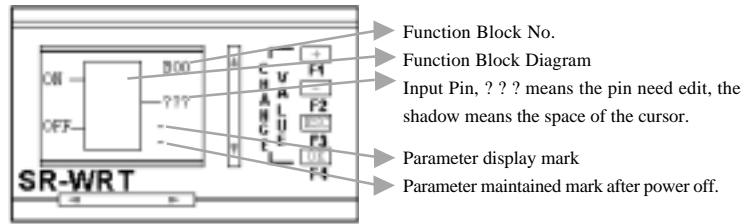
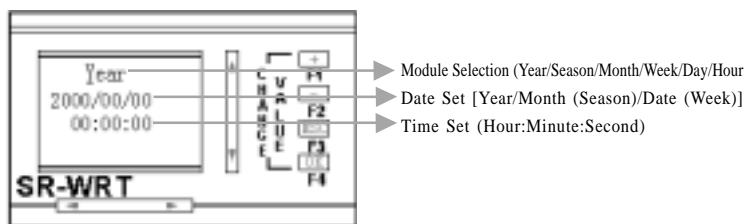
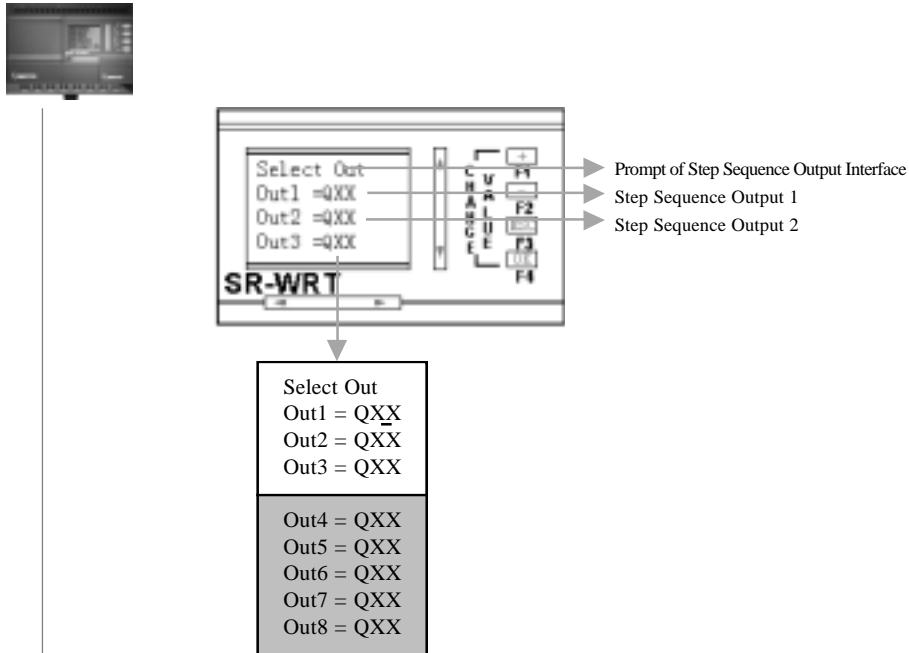

Fig. 10.31 Function Block Edition Interface
Fig. 10.32 Clock Time Edit Interface
Fig. 10.34 Step Sequence Output Edit Interface
1. Select the function. In Fig. 10.7, move “>” before 17 SCHED and press OK to enter Fig. 10.8. Move “>” before YES and press OK key to enter Fig. 10.31, Function Block Edition Interface.
In Fig. 10.31, B00 is the sequence No. of the function block, which is produced automatically in programming and is not able to be edit. The ON of the left side means the space to modify the ON date and the OFF of the left side means the space to modify the OFF date.
3. Select and Edit Point ON: The cursor “█” will also appear in M00. It is need to edit the ON time. Press OK key and cursor will change from “█” to “_”. Press LEFT, RIGHT key, the cursor will be moved under OFF. Press UP, DOWN key, the cursor will be moved under ON. Now the cursor is “_”. Press OK key, Fig 10.32, Clock Time Edit Interface will be displayed.
In Fig. 10.32, “_” is the cursor. The space of the cursor can be changed via UP, DOWN, LEFT, RIGHT and the data or module of the cursor can be changed via +, -. In Fig. 10.32, change the YEAR into DAY and change time to 6:30, thus the time of ON is set. Press OK key to return to Fig. 10.31. But at this time the cursor will be “■” and be on the “O” of ON. The input of this point can be selected via +, -. If “-” is selected, which means this point is not used. If this point is needed, select “On” and press “OK” key, change cursor to “_”. Then select and edit other points.
6. Return to Fig. 10.7, Function Block Selection interface. The edit of function block B00 is finished via the above steps. Press ESC, all the points are edit correctly and return to Fig. 10.7. Otherwise the wrong points will be displayed in Fig. 10.31 as “? ??”. And the cursor will be in the first “?” as the form of “■” and wait for the edition. And the mistakes at this space include the following three points:
Select and Edit B01: Via the above procedure, select function block 17SCHD. Through the confirmation in Fig. 10.8, it will enter Fig. 10.31, function block edition interface. But the B00 is changed into B01, which means the function block edited is
Select and Edit B04: Using step 1 to select function block 22 SSEQ. Through the step 2, edit the first input port of B04 as M02. After confirmation, through step 3, move cursor to the second input port and edit it as LO. Through step 3, move cursor to the first output port “OUT” at the right side. At this time the cursor will be “_”. Press OK key to enter Fig. 10.34, Step Sequence Output Edit Interface.
In Fig. 10.34, Step Sequence Output Edit Interface, “_” is the cursor. The step sequence can be edit via UP, DOWN, and the space of the step sequence can be edit via LEFT, RIGHT. Notes: Q cannot be selected. Only XX can be selected and edited. Change the data of the cursor via +, -. Change QXX to the output we needed. In edition procedure, please be attention the following notes. 1. When editing the step sequence, the output of the above step sequence cannot be as QXX. It must be on detailed output. If we want to edit Out 4 =QA3, then the output port of Out1, Out2, Out3 cannot be QXX. They must be the detailed output, for example, Out1=QA0, Out2=QA1, Out3=QA2 and so on. 2. To be convenient to the user, we design the menu as circle menu. For example, in Fig. 10.31, if the cursor in the second line of the WRT (caused by the first action prompt). The symbol of the above step sequence is Out1. Now Out8 is needed to be edited. Pressing DOWN eight times is too trouble. Directly press UP key one time. The cursor will be on Out8 directly and user can edit.
Out7 =QA6, Out8 =QA7. Press OK or ESC key. If the output ports of the eight step sequence are not as the same as the outputs of the above function blocks. It will enter the function edition interface. Otherwise, the same output ports will be displayed in Fig. 10.34 as Q?? and the cursor will be on the first ? for the user to finish the edit. In function block edition interface, through step 6 to return to Fig. 10.7, thus the edition of B04 is finished.